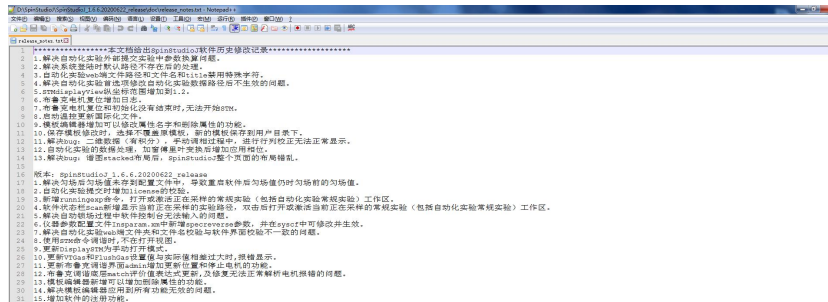

Figure 2.8 Release notes
7. After the installation is complete, release\_notes will pop up (Figure 2.8). So far, the SpinStudioJ interface package is installed, and the SpinStudioJ shortcut icon is generated on the desktop.